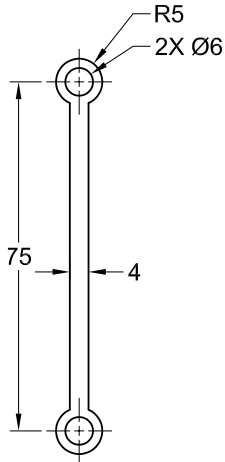

Figure 2-29 The front and side views of the piston rod
2. Draw the sketch of the front view of the piston rod, refer to Figure 2-29.